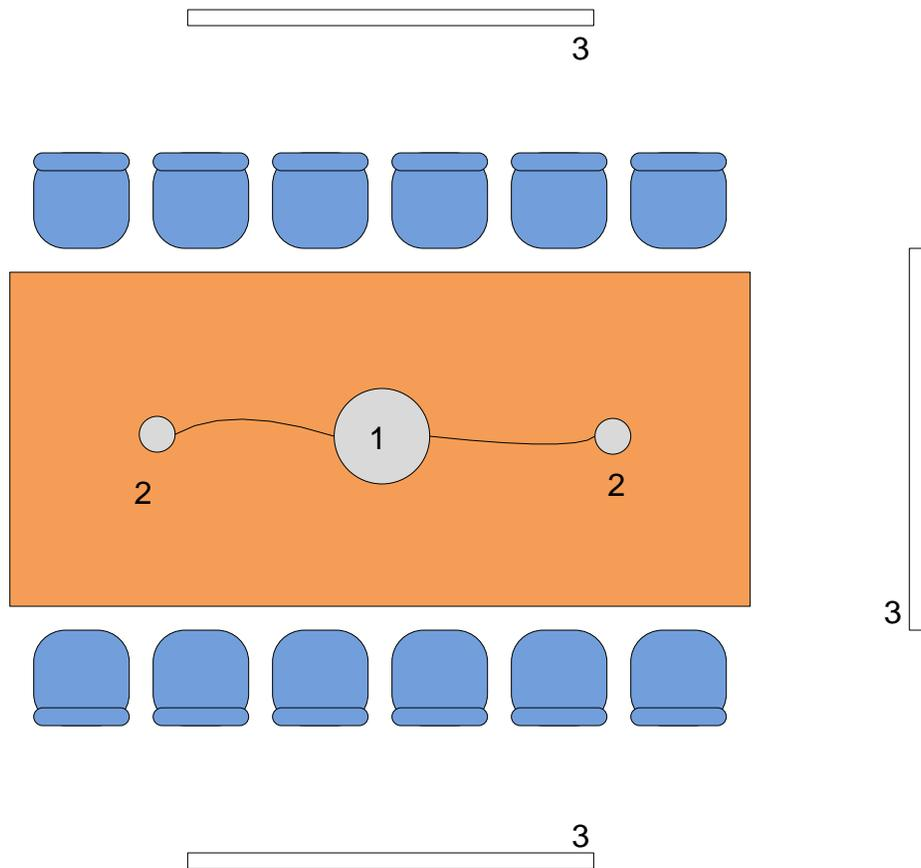

Figure 9. Rectangular table with multiple devices
Figure 9 below shows a configuration with a rectangular table in a conference room capable of holding 12 to 16 people, and three display devices (3). In this configuration, two satellite microphones (2) are shown connected to the Polycom CX5000 device (1).